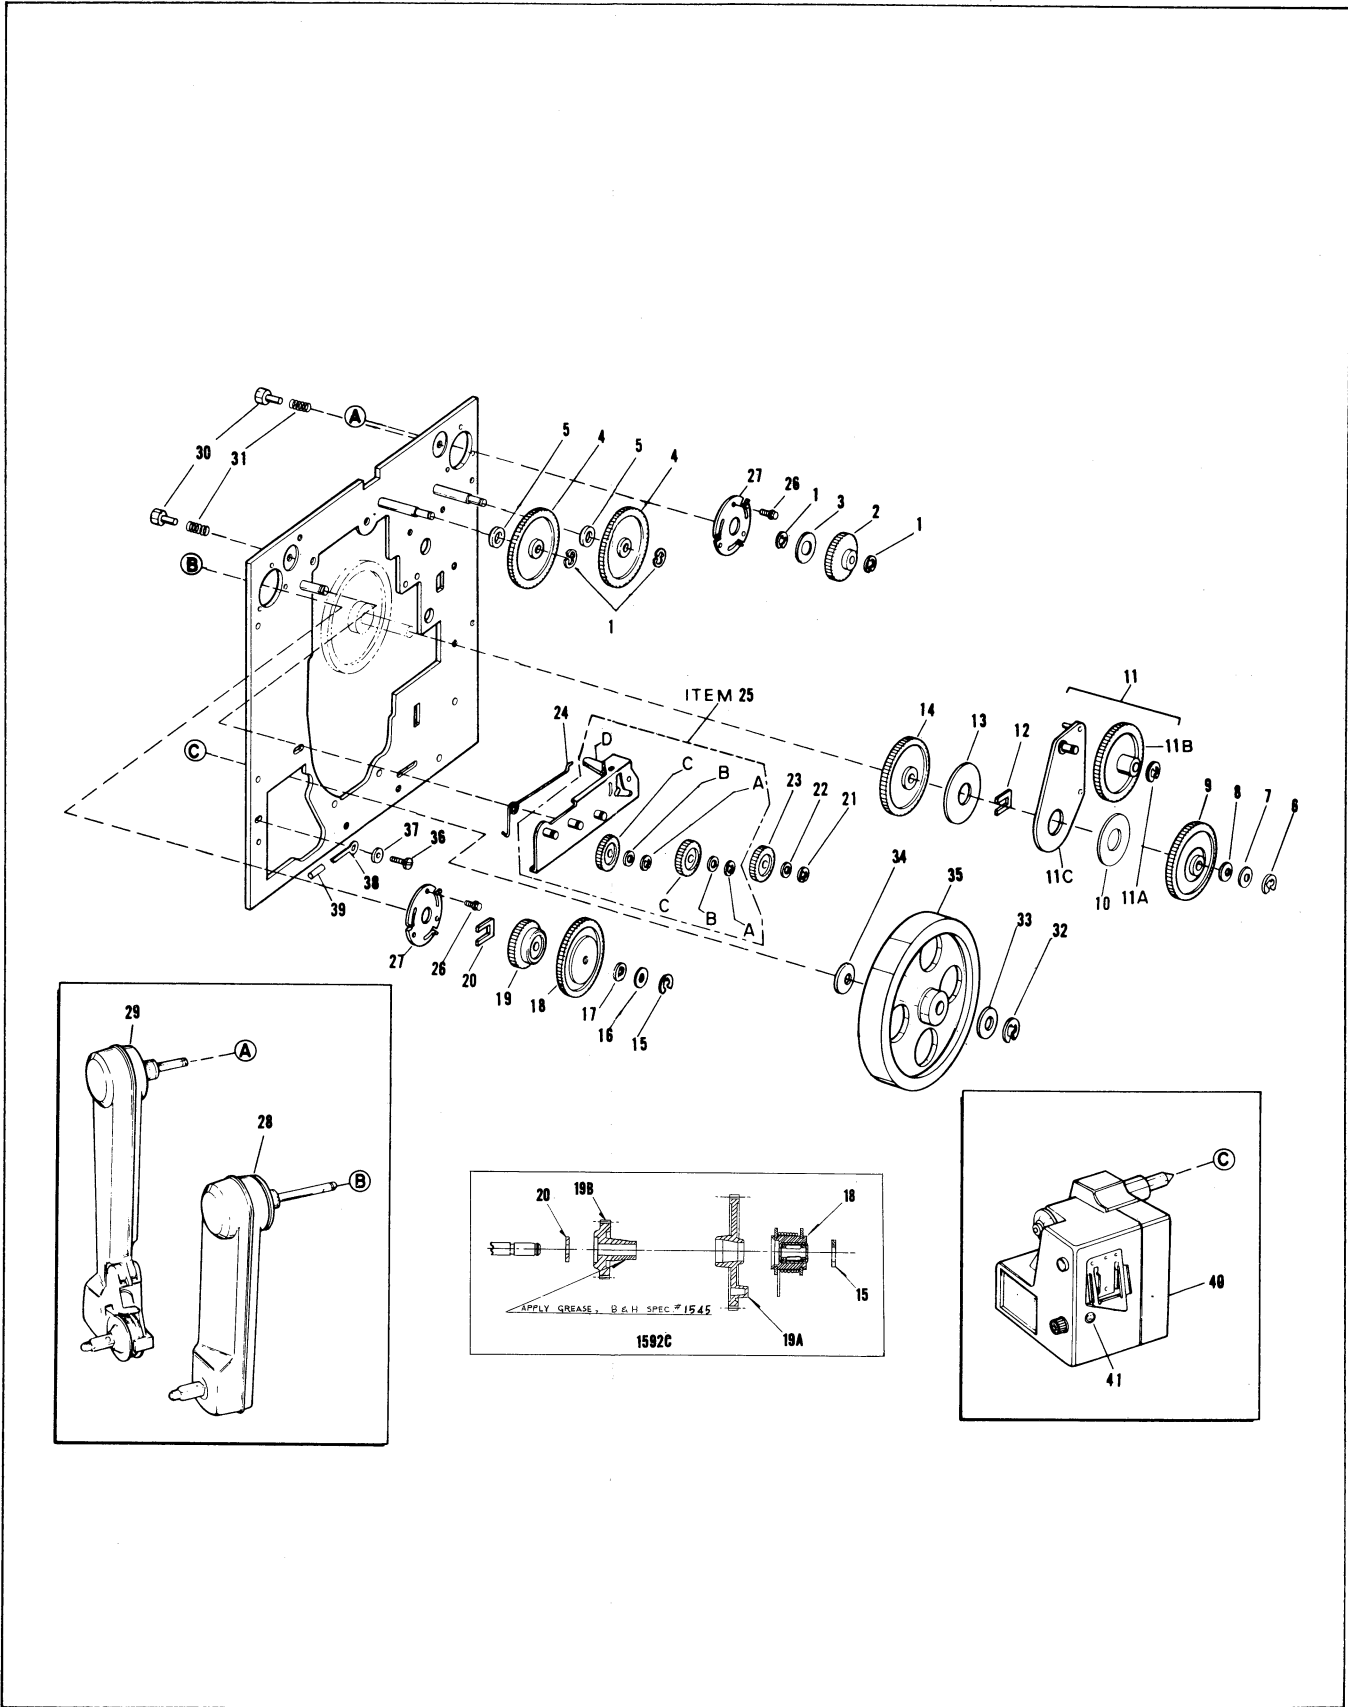

Figure 4. Gears, Reel Arms and Soundhead
NOTE A: All projector models above Serial No. 6352004 are equipped with the front reel arm clutch parts shown in the center inset of Figure 4. Earlier models were equipped with the corresponding parts shown in the main view (items 15 thru 20).